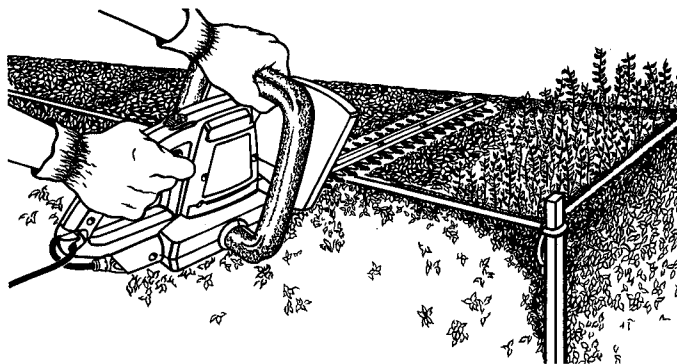

Fig. 6
2. With the blade directed away, hold the unit by the front and rear handle (Fig. 6).
1. Use hedge trimmer properly. Before starting hedge trimmer, hold the unit with both hands and face the cutting blade away from you (Fig. 6).